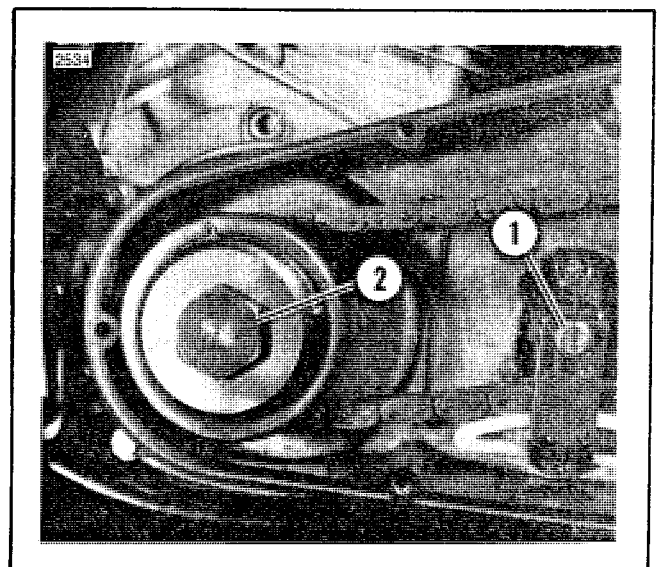

Figure 11. Compensating Sprocket Mounting
5. See Figure 11. Remove the bolt (1) and engine compensating sprocket nut (2). Pull the clutch hub-drum assembly while removing the compensating sprocket and chain with adjuster.